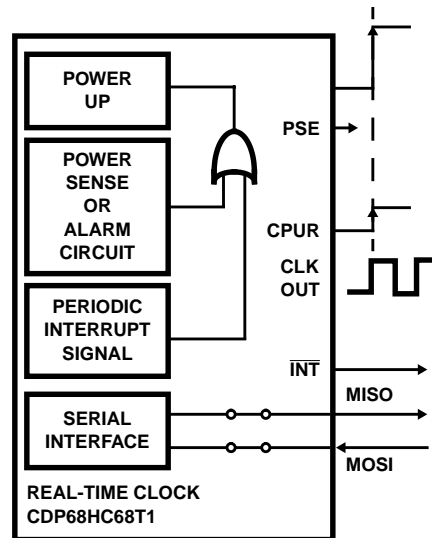
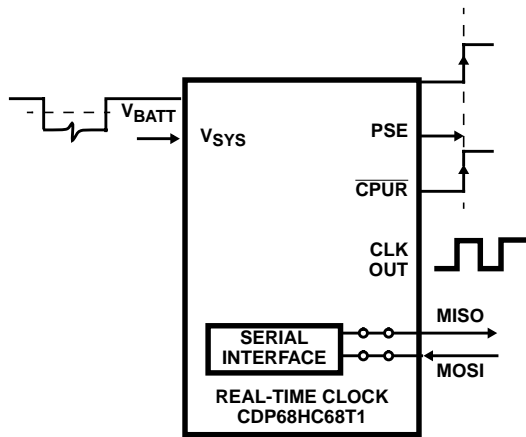

FIGURE 5. POWER-UP FUNCTIONAL DIAGRAM (INITIATED BY INTERRUPT SIGNAL)
FIGURE 6. POWER-UP FUNCTIONAL DIAGRAM (INITIATED BY A RISE IN VOLTAGE ON THE “Vsys” PIN)
### Watchdog Function (See Figure 6)
**Power Up (See Figure 5 and Figure 6)**
Two conditions will terminate the Power-Down mode. The first condition (See Figure 5) requires an interrupt. The interrupt can be generated by the alarm circuit, the programmable periodic interrupt signal, or the power sense circuit.
The second condition that releases Power Down occurs when the level on the  $V_{SYS}$  pin rises about 0.7V above the level at the  $V_{BATT}$  input, after previously falling to the level of  $V_{BATT}$  (See Figure 6) in the Battery Backup Mode or  $V_{SYS}$  falls to logic low and returns high in the Single Supply Mode.